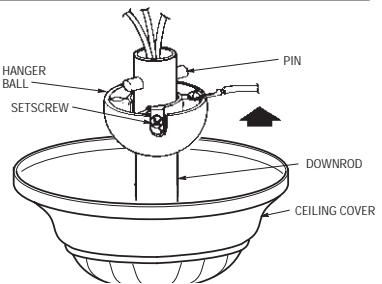

Figure 4
- 6. Reinstall the hanger ball (Figure 4) on the downrod as follows. Route the three 80" motor leads through the hanger ball. Position the pin through the two holes in the downrod and align the hanger ball so the pin is captured in the groove in the top of the hanger ball. Pull the hanger ball up tight against the pin and securely tighten the setscrew in the hanger ball. A loose setscrew could create fan wobble.